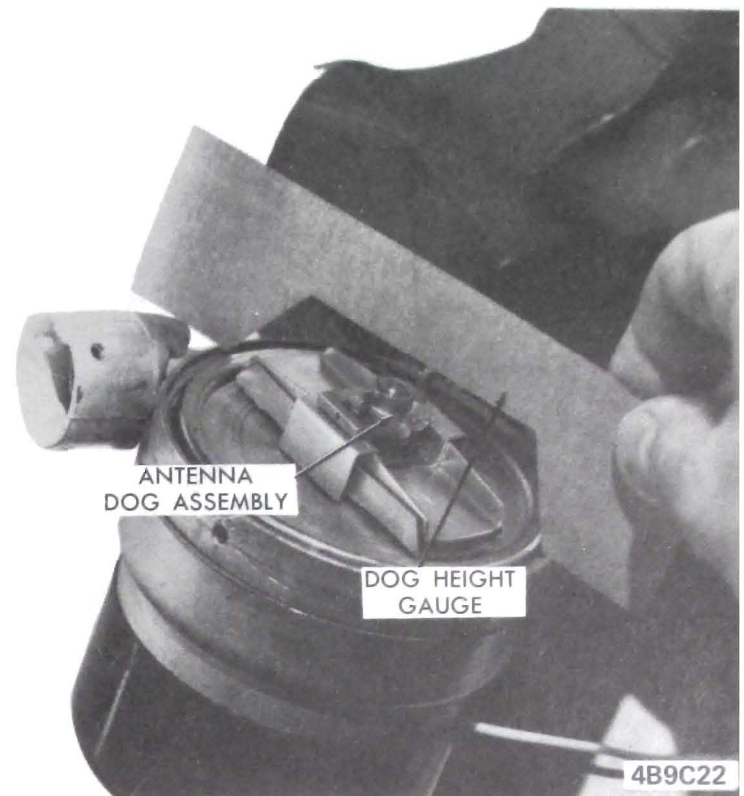

Figure 9C-24 Adjusting Dog Height
2. Using the template provided with new dog, measure distance between top of longest pin on dog to base of drive housing. Adjust as necessary. See Figure 9C-24.